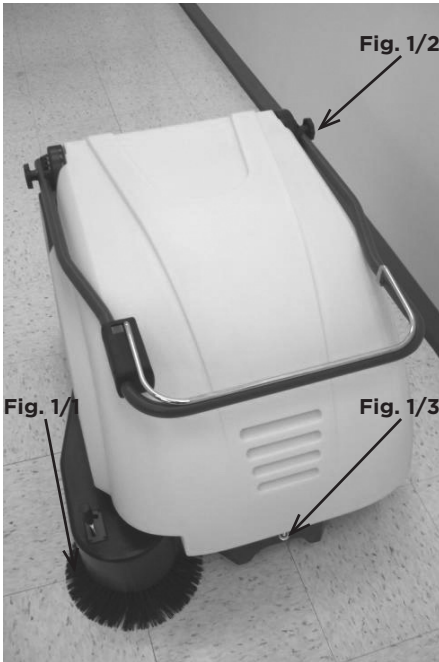

Fig. 1
Unpacking and assembling Fig 1
1. To fix the side brush (Fig 1/1) align the drive pins on the side brush drive plate and secure with the wing bolt and washer supplied.
2. Loosen the two knurled screws (Fig. 1/2) holding the handle a few revolutions until the handle can be raised and positioned. Set the handle to a height comfortable for the user and then tighten the knurled screws.
3. Remove the locking bolt (Fig 1/3) holding the hood and pivot the hood open.
3. Loosen the locking bolt holding the hood (refer to Figure 1/3) and pivot the hood open.